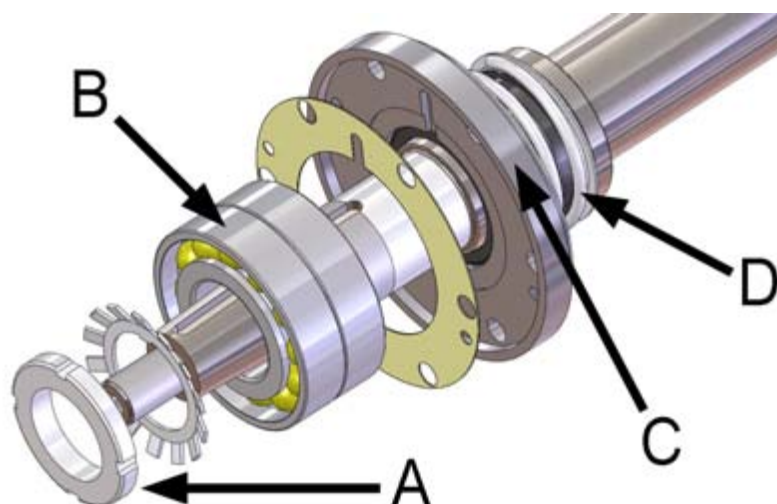

Figure 8. Removing the bearing from the shaft
8. Pull the bearing (figure 8, point B) off the shaft.
The mechanical seal (figure 8, point D) can also be removed. However, it may be tight due to the pressure on the shaft that is caused by the rubber bellows.